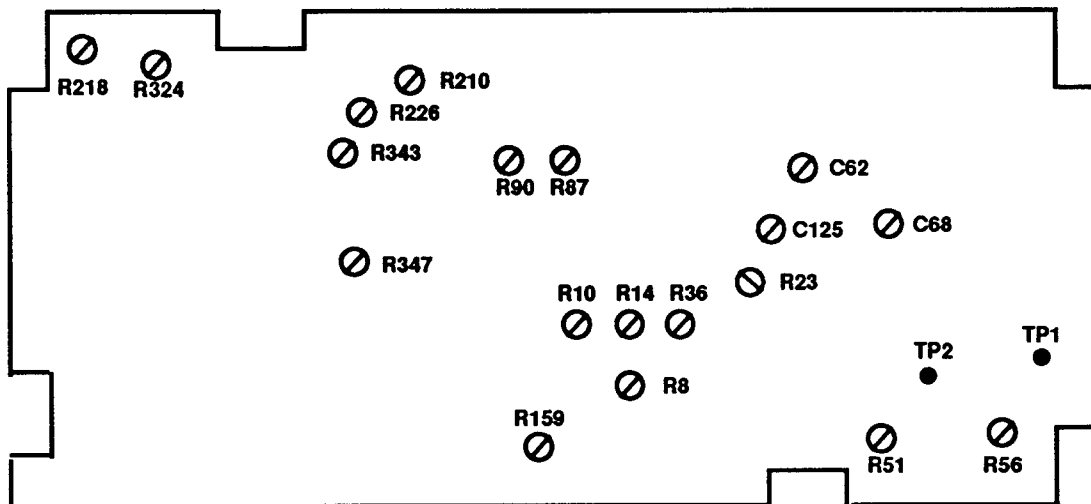

Figure 2. Test instrument - bottom view.
(1) Adjust R36 (fig. 2) until oscilloscope indicates a duty cycle between 49.5% and 50.5% (R).
(2) Adjust R23 (fig. 2) until oscilloscope indicates a duty cycle between 45% and 55% (R).
**b. Adjustments.** Adjust R87 and R90 (fig. 2) for minimum distortion, less than 0.5% as indicated on audio analyzer (R).
1Set frequency dial to .02 and adjust R8 (fig. 2) for 200 Hz on frequency counter.
2Connect multimeter between TP1 and TP2 ground (fig. 2). Adjust R56 (fig. 2) for 0 ±1 mV dc on digital multimeter (R).
- (5) Disconnect TI from audio analyzer and 50Ω feedthrough termination.
- (6) Connect TI **FUNCTION OUT** (50Ω) to measuring receiver **INPUT 50W**.
(7) Set TI **FREQ/MULT(Hz)** to switch settings and frequency dial position for each row in table 19. If measured frequency using measuring receiver does not indicate within limits, perform **b(2)** below.